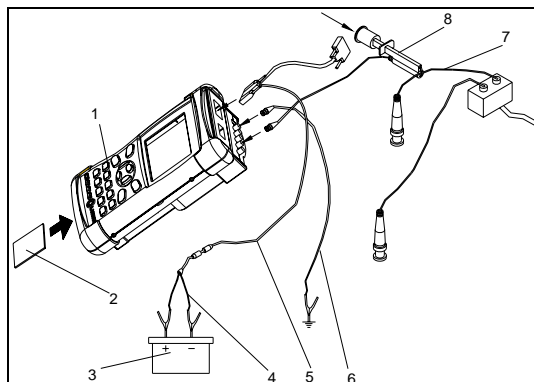

Fig.4-11
**CONNECTION 6:** The high-tension wires of both spark plugs are exposed. The primary negative lead of ignition coil is hidden. In this case, just the secondary ignition waveform can be tested. The connection is as shown in Fig.4-11. Remember to select secondary trigger mode to get the secondary ignition waveform for this connection.